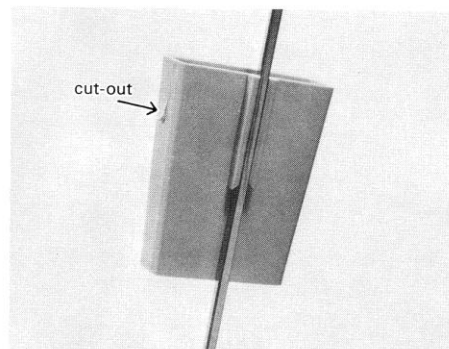

Fig.19
13. Clip plastic hand tool holder to the rod at a convenient height. (Fig.19)
The cut-out, to be found on both sides of the hand tool holder may be used for temporarily holding any loose end of wool not at present in the feeder. (Fig.19)